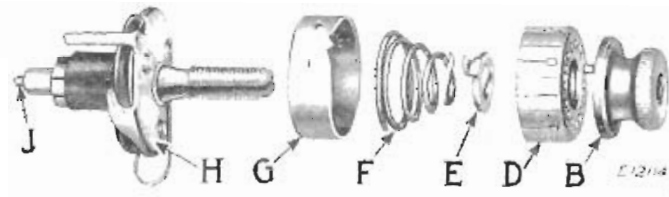

FIG. 45
then press in the index flange (D) to disengage the pin (C) in the thumb nut (B) from the flange, and remove the thumb nut and flange, the flange stop motion washer (E, Fig. 45), tension spring (F), indicator (G), tension releasing pin (J) and tension disc assembly (H) which includes the thread take-up spring, thread take-up spring thread guard and two discs.